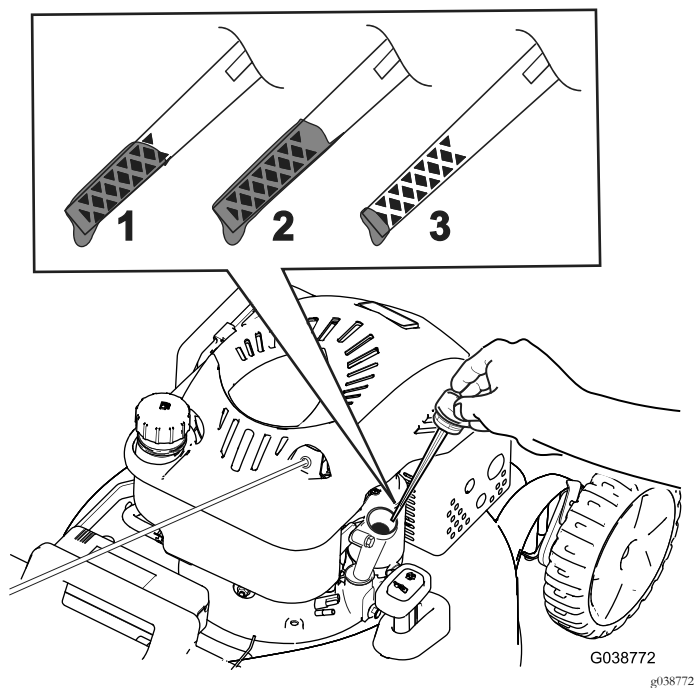

Figure 29
9. Remove the dipstick and read the oil level on the dipstick (Figure 29).